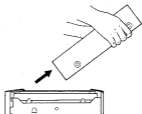

Fig. 4
d. Pull off the Top Cover diagonally as shown in Fig. 4. * When pulling off the Top Cover, be careful not to allow the plastic rivet fixing the front panel to come off.